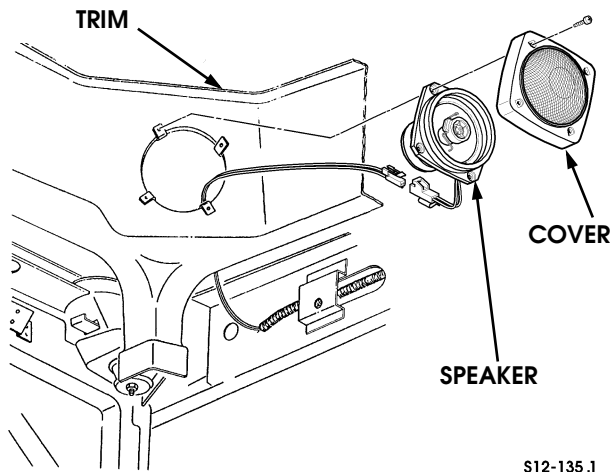

Figure 12-143: Right Front Speaker Model 89.
3. Remove four screws, clips, cover, and right speaker from trim (Figure 12-143).
4. Connect two leads to right speaker (Figure 12-143).
3. Remove four screws, clips, cover, and right front speaker from trim (Figure 12-143).
7. Connect two leads to right front speaker (Figure 12-143).